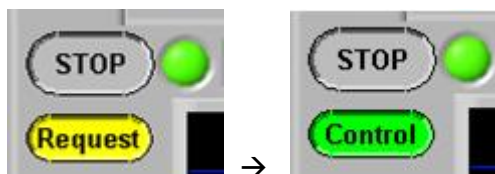

Figure 4
9. When any GUI wants to change the SA parameters of Center Frequency, Span, etc., select "Listen" (Figure 3) and if "Lead GUI Grants Control?" is selected from Configure>Miscellaneous on the Main Menu, and your GUI is not the Lead GUI then the "Listen" button will change to a yellow "Request" state indicating a control request has been sent to the Lead GUI. The Lead GUI can either grant or deny control. If control is granted then your "Request" button will change to a "Control" button as shown in Figure 4. If the Lead GUI denies control then your "Request" button will immediately revert to "Listen". If "Lead GUI Grants Control?" is not selected then the "Listen" button will immediately change to "Control".